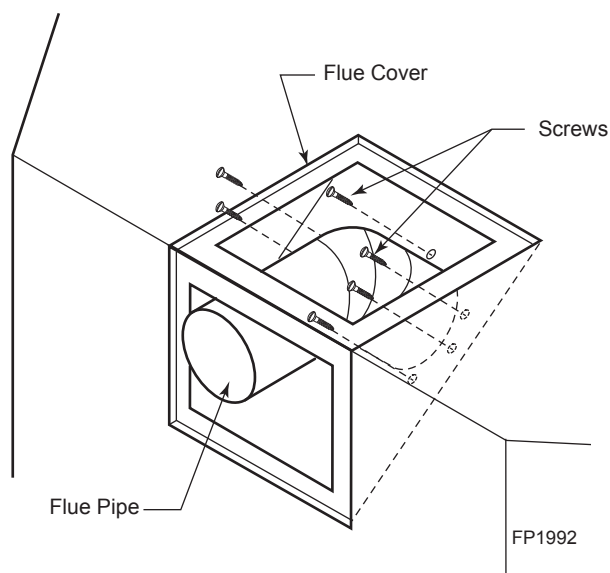

Figure 8 -
4. Remove eight (8) screws securing the flue pipe to the back of the intake box and remove the pipe and gasket. *Figure 8*